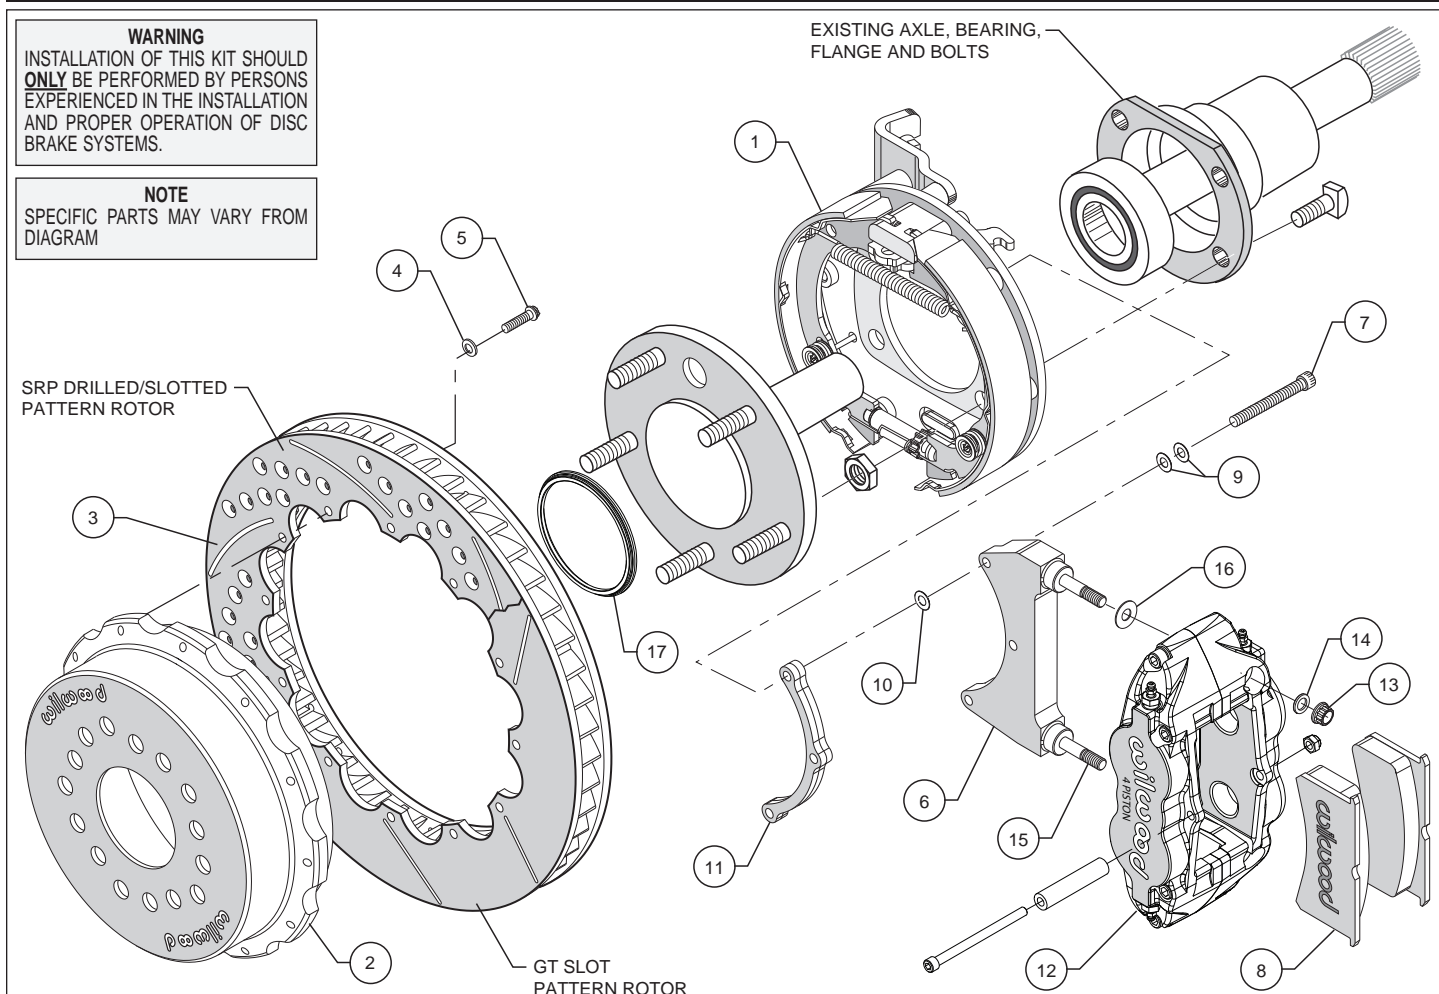

Figure 1. Typical Installation Configuration
The caliper mounting bracket assembly (6) should be installed first with clean, dry threads on the mounting bolts (7). Install the bracket from the rear side of the bracket kit assembly (1) by sliding bolt (7) through two flat washers (9), bracket (6), shim washer (10) and finally through the spacer (11), see Figure 1. **NOTE:** End of bolt should not exceed inside face of insert. The bracket must tighten squarely against the back side of the bracket kit assembly (1). Inspect for interference from casting irregularities, machining ridges, burrs, etc. Use one thin shim (10) between the bracket (6) and spacer (11) during initial trial fitting.
- Install one shim (16) over each pre-installed stud (15) on the radial mount bracket (6). Slide the caliper (12) in place over the studs and rotor, then install the washer (14) and lock nut (13) to hold the caliper in place. Snug the lock nuts (13) and check that the rotor (3) is centered in the caliper (12). Add or subtract .015" shims (10) as necessary between the caliper mounting bracket (6) and the spacer (11) to center the caliper (12).
- Remove the caliper center bridge pad retainer bolt, nut, and tube from the caliper. Slide the brake pads (8) into place. They should install easily without interference. Check that the outside radius of the brake pad is aligned with the outside diameter radius of the rotor face. Add or subtract shims (16) between the caliper (12) and mount bracket (6) to gain the proper alignment. Reinstall the center bridge pad retainer tube, bolt, and locknut. The locknut should be snug without play in the bolt or tube. Be cautious not to over tighten.
- Adjust the parking brake shoes outward (using a drum shoe adjustment tool available at your local auto parts store) while spinning the hat (2) until a slight drag is felt against the hat/drum. Remove the lug nuts that were holding the hat/rotor in place. Install the wheel and lug nuts. Check to see that the wheel rotates freely without interference.
- Once all clearances have been checked, remove the wheel, caliper, hat/rotor from the bracket kit assembly (1). Secure the caliper mounting bracket (6) to the bracket kit assembly (1) using red *Loctite*® 271. Torque bolts (7) to 180 in-lb. Reinstall the hat/rotor assembly and again use lug nuts to hold it in place. Lubricate caliper mounting studs and nuts with lightweight oil, reinstall the caliper, torque the caliper nuts (13) to 30 ft-lb.
- **NOTE:** Clevis and cable kits which attach to the parking brake assembly are not included in the Wilwood parking brake kit. Wilwood offers a generic style parking brake cable kit, P/N 330-9371 for this application which can be ordered separately from your local Wilwood dealer or by calling Wilwood customer service at (805) 388-1188.